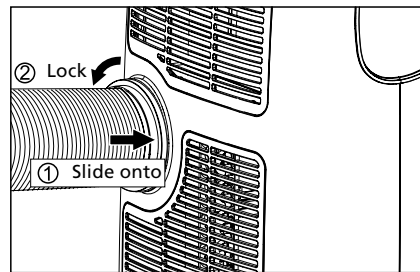

Fig. 4
**3** Install the hose inlet into the unit (Fig.4).